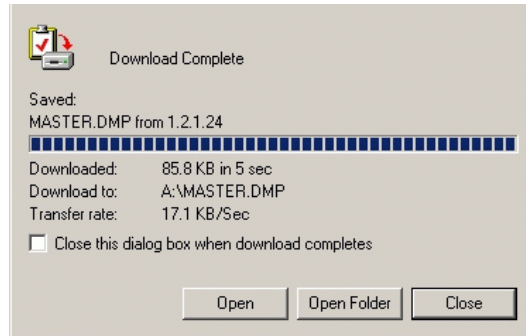

Figure 4-23 Download Complete Dialog Box
7. The *Download complete* dialog box displays (Figure 4-23) with a progress bar that shows percent completion of the dump file download.